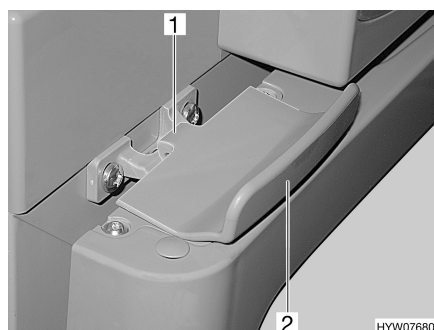

Fig. 65 Lock of refrigerator door, closed (Thetford)
- Open the refrigerator door at the handle (Fig. 65,2). The lock (Fig. 65,1) is released automatically.